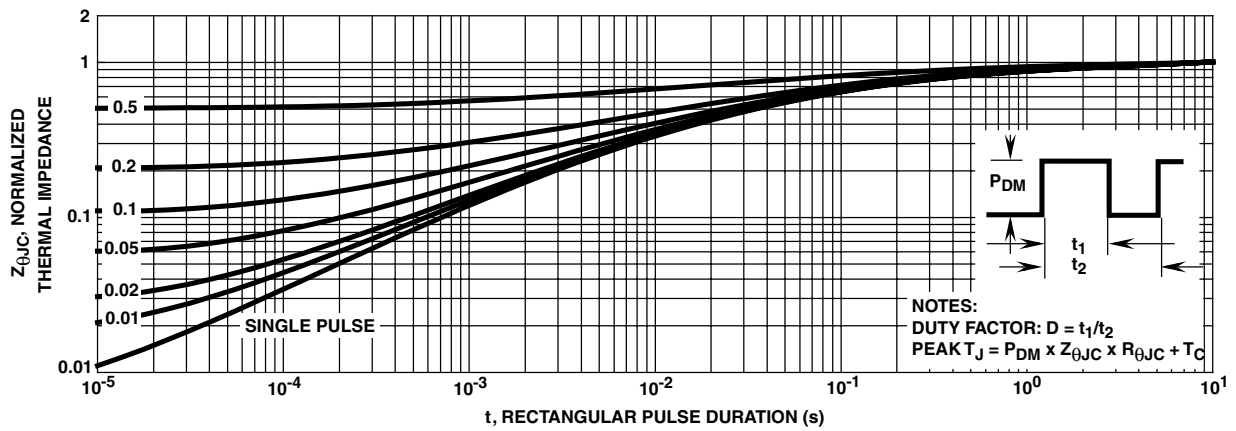

FIGURE 3. NORMALIZED MAXIMUM TRANSIENT THERMAL IMPEDANCE
4. Repetitive rating: pulse width is limited by maximum junction temperature. See Transient Thermal Impedance curve Figure 3).